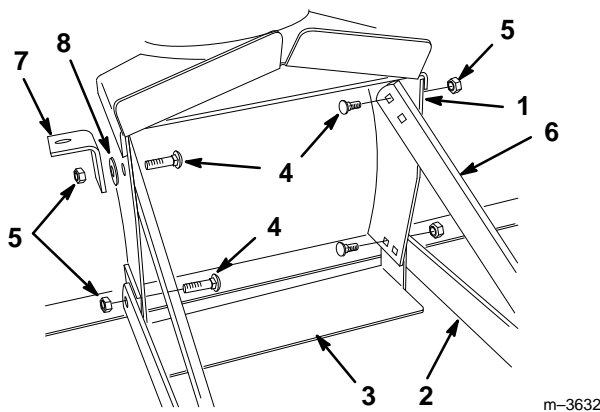

Figure 5
1. Attach the long lift bars to the bottom holes on the outside of the snowthrower auger housing and lower snow shield with (4) 3/8 x 1-1/4 (32 mm) carriage bolts and (4) 3/8" locknuts (Fig. 5).
2. On the right-hand side of the auger housing, attach a short lift bar to the upper holes on the inside of the housing with (2) 3/8 x 1-1/4" (32 mm) carriage bolts and (2) 3/8" locknuts (Fig. 5).
3. On the left-hand side of the auger housing, attach a short lift bar and the rotator support bracket to the upper holes in the housing with (2) 3/8 x 1-1/4" (32 mm) bolts, (2) 13/32" (10 mm) washers, and (2) 3/8" locknuts. Make sure the short lift bar is on the inside of the auger housing and the rotator support bracket is on the outside (Fig. 5).